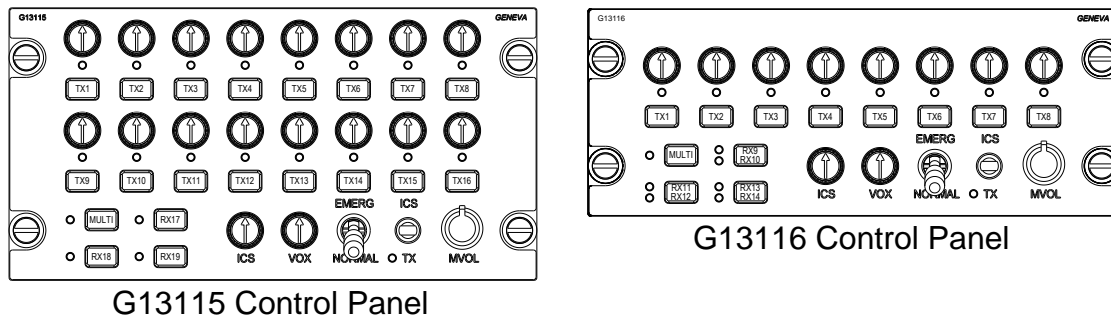

Figure 4 Control Panels
The following are the most common Control head types (See Figure 4):
5. On G13116 control panels three of the multi-purpose buttons may be set to control two fixed-volume receive-only devices. In Figure 4 an example is the RX11/RX12 button at the bottom left of the control panel. The two LEDs to the left of the button indicate which of the devices is enabled. Pressing the button cycles through the possible combinations e.g.